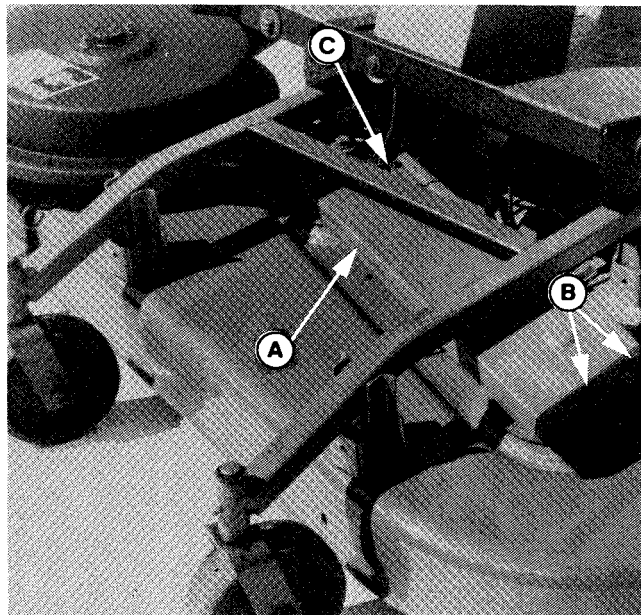

Figure 11.
20. Install the new belt cover bracket (A, figure 11) with two capscrews (B, removed in step 2) on lift end and new capscrews, lockwashers, and nuts on right side.